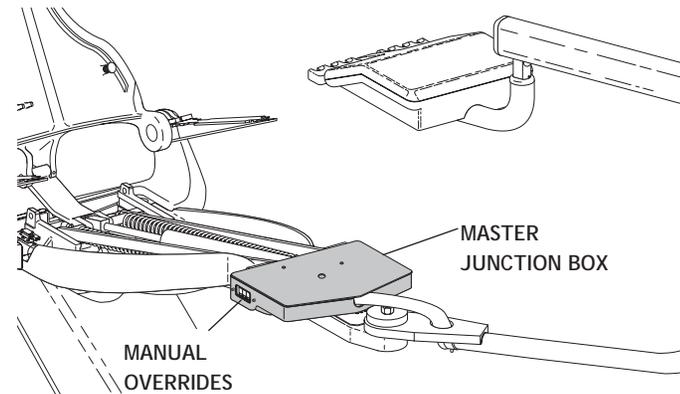

Figure 8. Master Junction Box Location
*If you have a Radius unit, raise the chair to full base up. Locate the Master junction box mounted on the chair-mount adapter (see Figure 8) then locate the window to the manual overrides on the side of the junction box cover.*